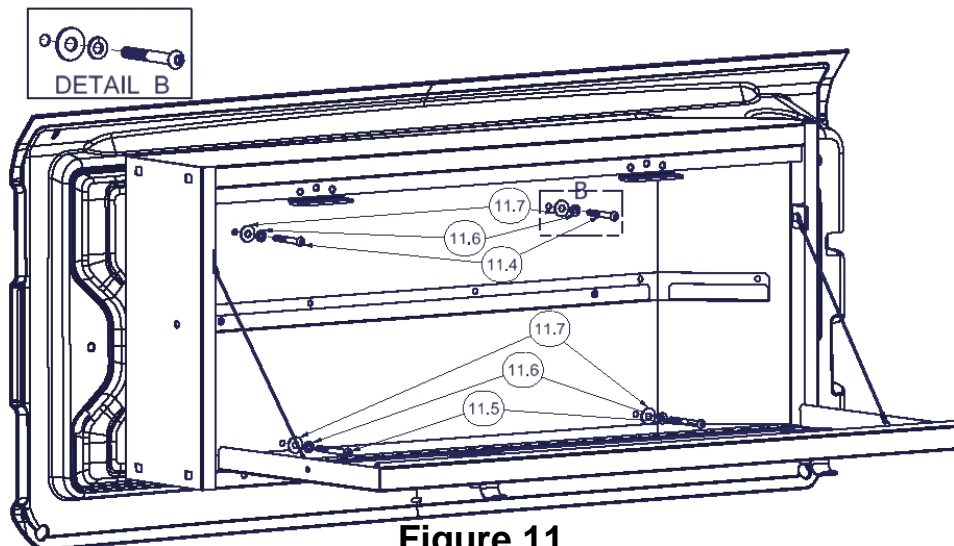

Figure 11
14. While holding the #349 Lockbox in place, insert the mounting hardware through the mounting holes of the Lockbox in the sequence shown in Figure 11. #11.4 Screws (2") are used in the upper mounting holes, and #11.5 Screws (2 3/8") in the lower holes. **NOTE: This step is most easily accomplished with help, or another means of supporting the lockbox at the correct elevation.**